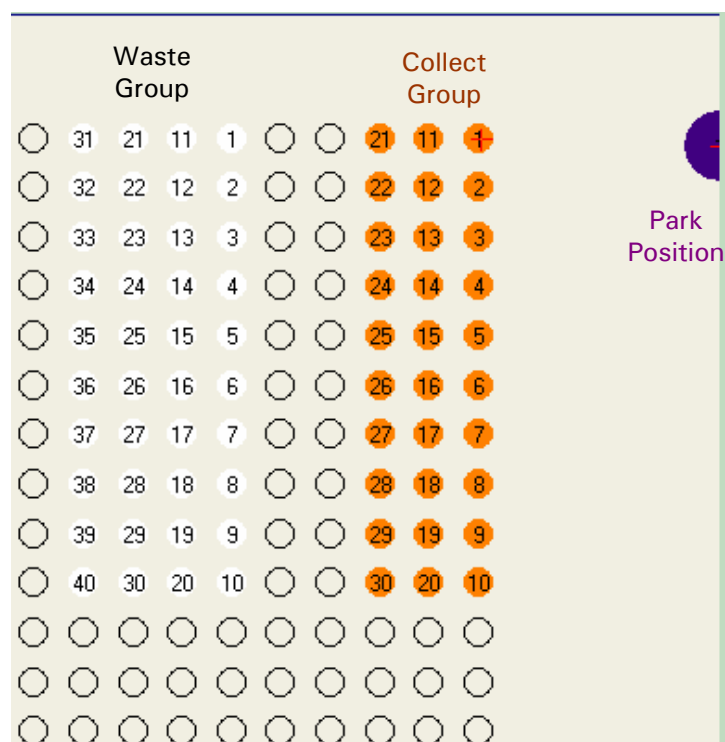

FIGURE B-2 Defining the Collection, Waste and Park Groups
- Prepare a collection group with the amount of vessels required to collect all peaks and a waste group with the appropriate amount and size of vessels (FIGURE B-2).